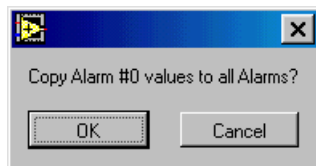

Figure 10-5. The Copy Alarm Message Box
- **Copy Alarm #0 to All** — Click this option to copy the configuration settings of the top level alarm in this dialog box (in this case, the **Module to Module Communication** alarm settings) to all DS1 or E1 output module alarms. Click **OK** in the message box (Figure 10-5) to confirm or click **Cancel** to cancel the operation.